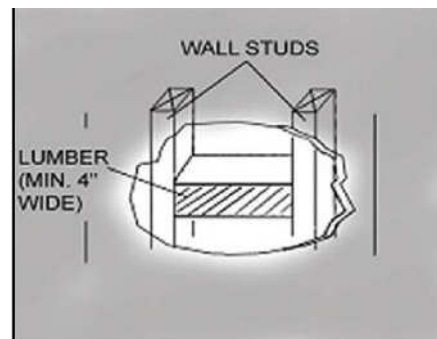

Figure 10
- Using references in Table 2 and Measurements and Diagrams on pages 19-20, decide the level of the lumber. Refer to Figure 10.